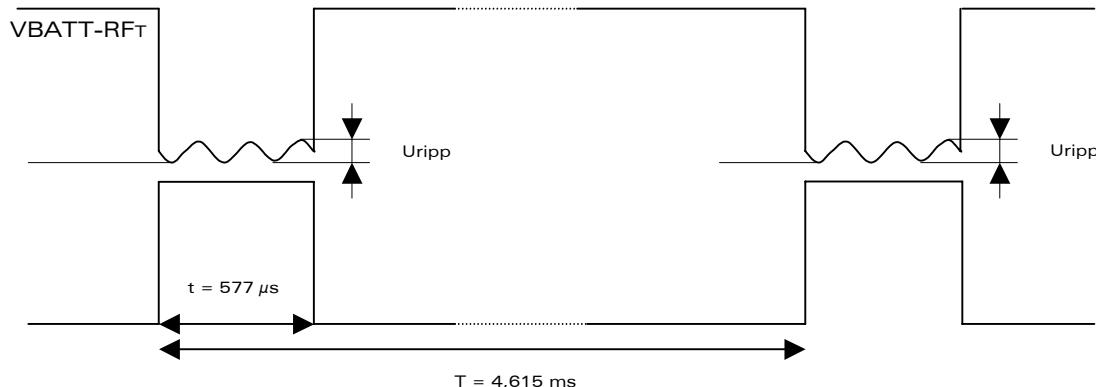

Figure 2 : Power supply during burst emission
- In communication mode, a GSM/GPRS class 2 terminal emits  $577\mu\text{s}$  radio bursts every  $4.615\text{ms}$ . (See Figure 2 below.)